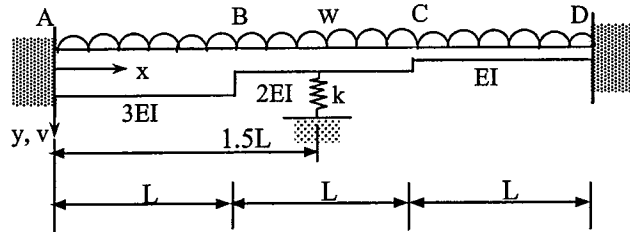

Figure 4
2. (b) Figure 4 shows a linearly elastic stepped beam with fixed end conditions subjected to a uniformly distributed load, w . Flexural rigidities of the beam are $3EI$, $2EI$ and EI for portions AB, BC and CD, respectively. A spring with elastic constant k is attached to the beam at the mid-span. Show the procedures used in the analysis of the beam by the use of piecewise Rayleigh-Ritz method together with principle of minimum potential energy. Use quartic polynomial for the displacement field in your explanation of the solution procedures. You are required to show clearly all equations and principle involved in the solution process. Your explanation must indicate clearly how the solution will be obtained. Detailed solution for the displacement is not required.